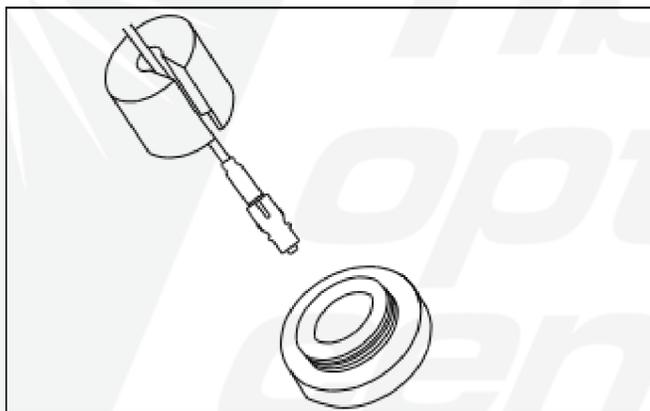

Figure 14a: Insert the 906 or 906 SMARt, 944 FC or 954 SC connector into the appropriate polishing disk and assemble the handle until it seats completely.
16. Slide a sheet of 12-micron lapping film (gritty side up) into the grinding track. The lapping film should fit beneath the lips on the interior borders of the track. Install the connector into the Amphenol constant force polishing fixture (see Figures 14a and 14b). If the connector is assembled into the polishing tool correctly, slight pressure on the ferrule (be careful not to touch the fiber) with the thumbnail should result in a spring action. If this is not the case the connector should be removed and reinserted.